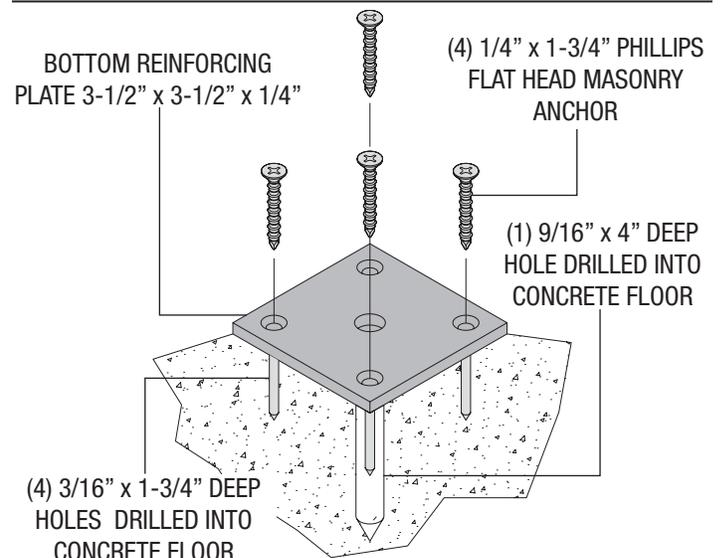

FIGURE 3
Ensuring the post assembly is plumb, trace the outline of the bottom of the outer post on the floor. Remove the post assembly and set aside until **STEP 7**. Locate the center of the traced outline by connecting the corners to form an 'x'. At the intersection of the 'x', drill a 9/16" diameter hole a minimum of 4" deep into the floor. Clean dust out of hole. Align the plate over the hole as shown in **FIGURE 3** and drill (4) 3/16" x 1-3/4" holes. Clean out the holes and insert the (4) 1/4" x 1-3/4" phillips flat head masonry anchors through the holes in the floor plate and tighten to secure the plate.